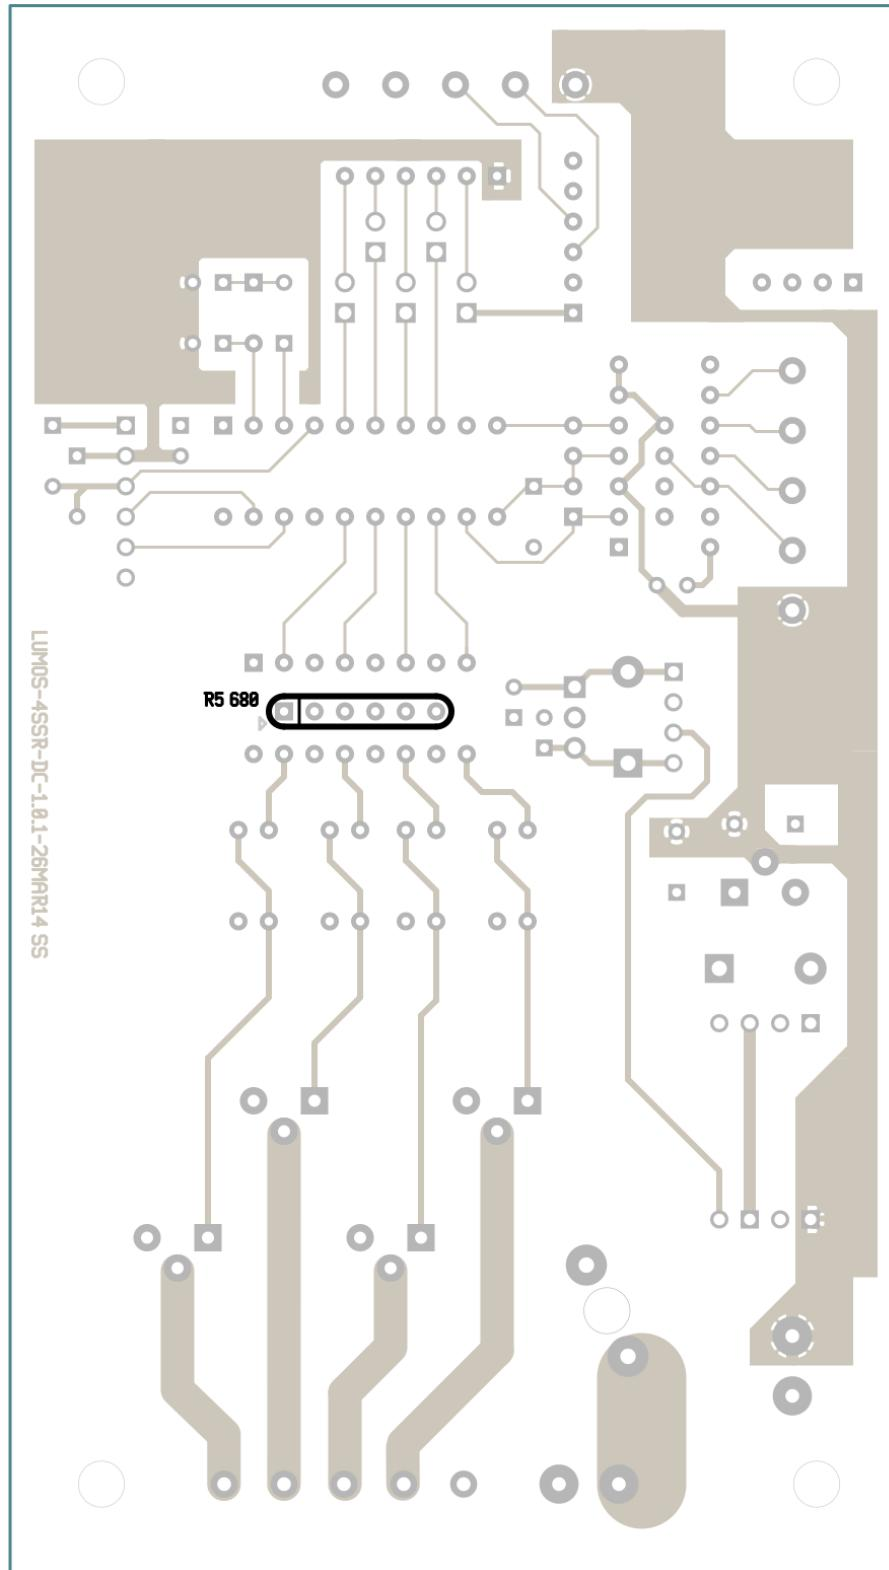
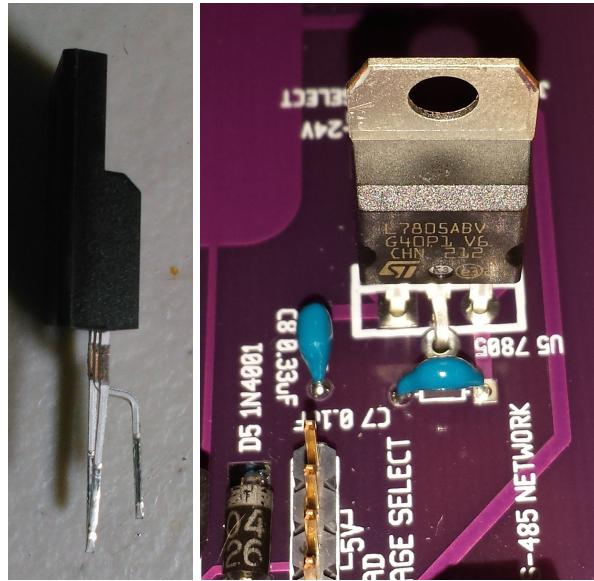

Figure 5.2: Lumos Board Parts Placement (Reverse Side)
Figure 5.4: Bending the Pins of the MOSFETs and 7805
19. Install a  $680\ \Omega$  resistor network *on the bottom (solder) side* of the board at R5 (the row of six holes *inside* U3). **Note the correct position of R5.** The square hole on the PCB marks where pin 1 of R5 should be inserted. Pin 1 is marked with a dot on R5 itself. See Figure 5.2.
26. Install (3) 4-position jumper block headers at J3–J5. Solder.
29. Install (2) 5-position terminal blocks at J1 and J8.
30. Install (2) 2-position terminal blocks at J6 and J7.
31. Using ESD protection, lay out (4) MOSFETs on your workbench.
32. Prepare each MOSFET by bending the middle lead 90° up toward the front of the transistor body, then move your pliers down the lead another 0.1" and bend it 90° back again, parallel to the other pins again. It should now look like the photo in Figure 5.4 and should fit easily into the holes at Q0 on the PCB.